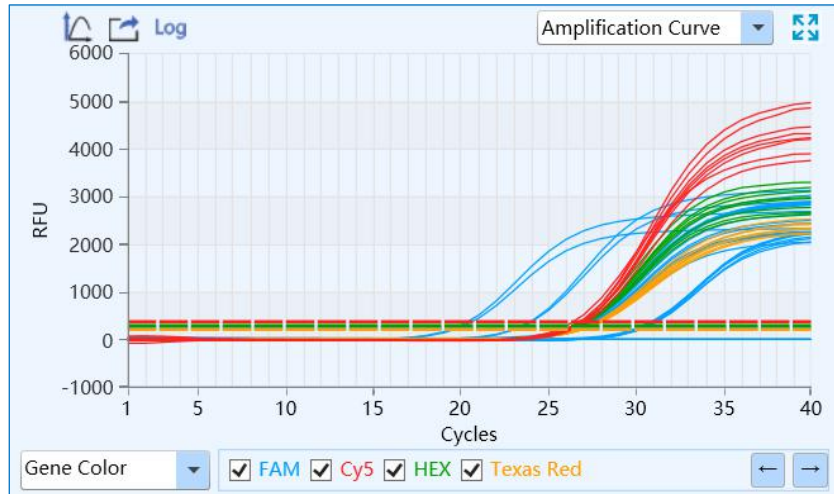

Figure D-9.1 Abs Quant analysis interface - Amplification Curve functional module
- I. **Amplification Curve:** display the diagram of fluorescence intensity against cycle number of the current experiment, as shown in figure D-9.1.